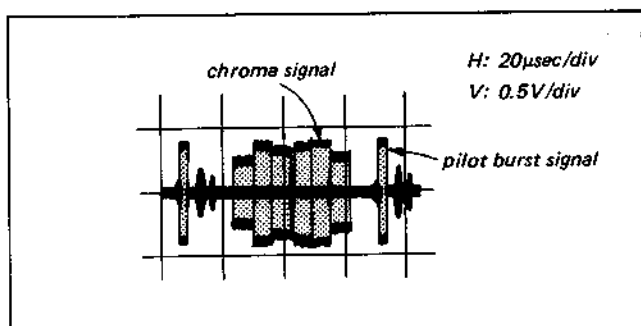

Fig. 4-4-26. Pilot burst adjustment
- (1) Supply the VTR with the colour bar signal and set up the E-E mode.
- (2) Connect the oscilloscope to TP26 (emitter of Q56).
- (3) Adjust RV18 so that the level of the chroma signal becomes equal to the one of the burst signal. (See Fig. 4-4-26.)